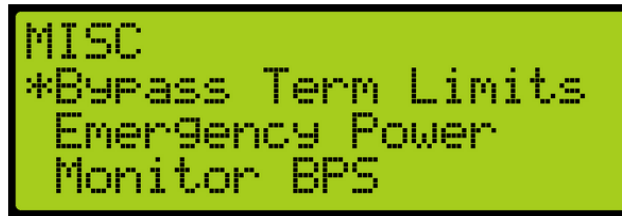

Figure 10: MISC Menu – Bypass Term Limits
- Figure 10: MISC Menu – Bypass Term Limits7